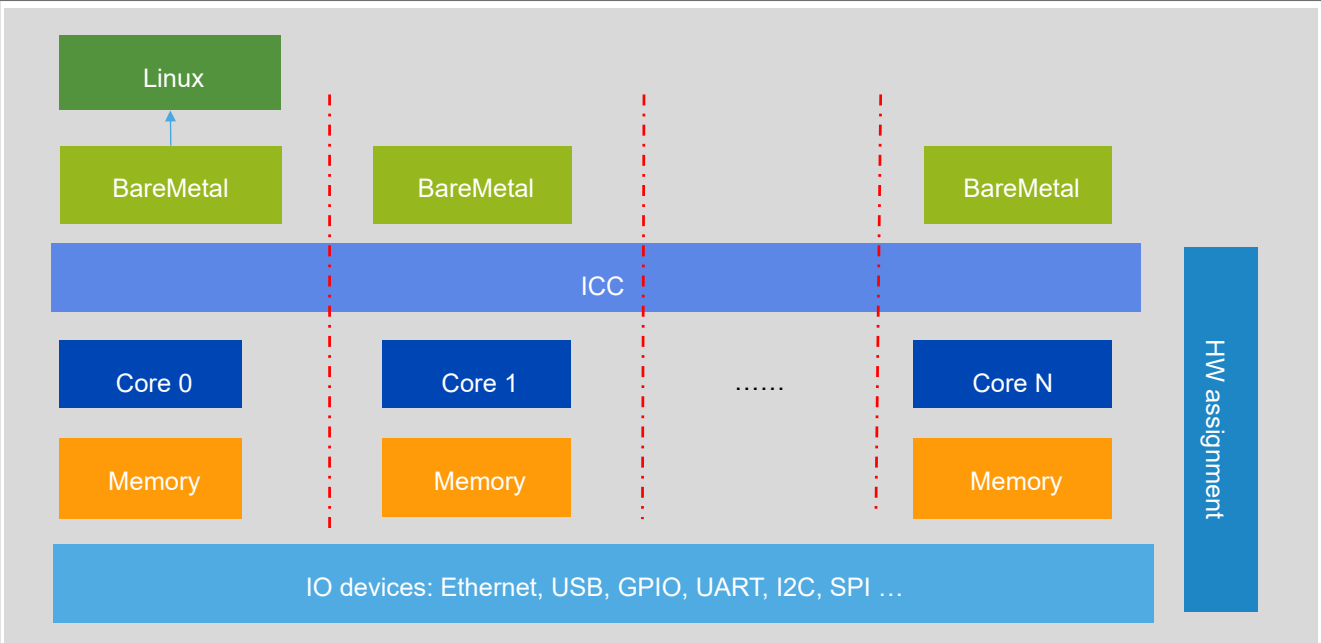

Figure 8. BareMetal Use Case 1
1. Core0 as a master core runs Linux to manage slave cores and communicate with server. Slave cores run Baremetal application for real-time processing. Refer Figure 8.